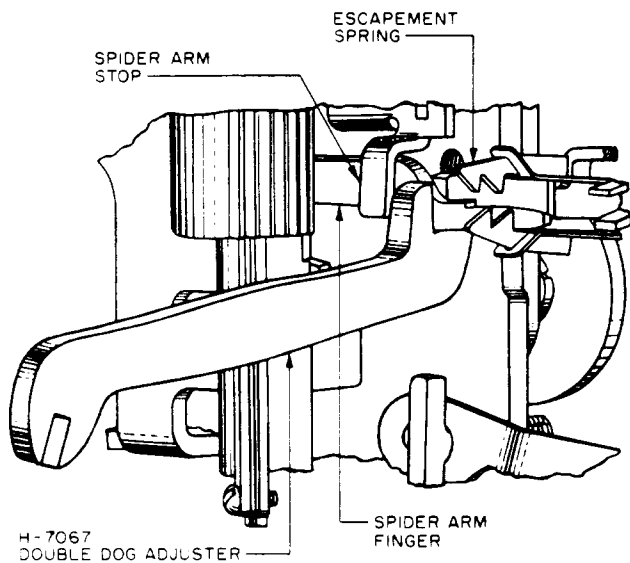

Fig. 11 – Method of Tilting the Spider Arm Finger
- (1) If the spider arm finger is not parallel to the frame when in the normal position, adjust it as required with the H-7067 double dog adjuster.
- (2) To tilt the spider arm finger, apply the H-7067 double dog adjuster as shown in Fig. 11 and twist the finger slightly by bearing upward on the tool adjuster.